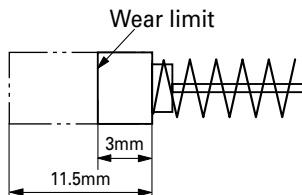

Fig. 9
4. Inspecting the carbon brushes (Fig. 9)